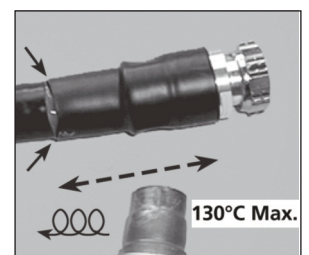

Figure 6 Shrink boot installation
Step 5 Installation of a shrink boot can help stabilize a connector on a cable and can improve PIM performance in some cases [Figure 6].